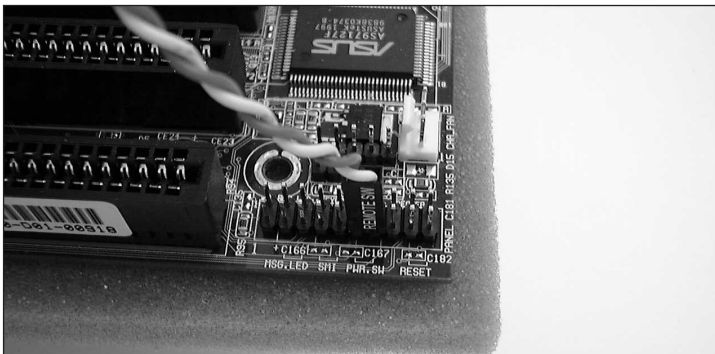
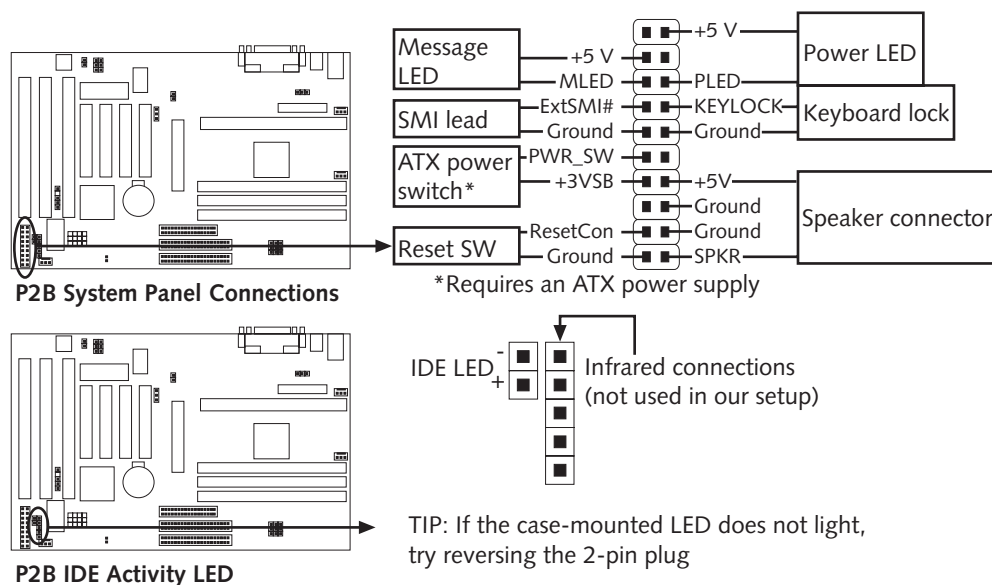

Figure 15-16 Connect the ATX power switch to the system board in preparation for the memory test
Figure 15-23 Panel connections on the system board
- This ATX power supply requires that the ATX power switch be connected to the system board. The switch wire comes from the front of the case and connects to the system board at the panel connections (Item 10 in Figure 15-2). Connect the switch wire to the panel connection, as seen in Figure 15-16. (An AT power supply does not have this switch wire.)
On the front panel of the computer case are several lights and one switch, and the speaker is nearby. The switches are inputs to the system board, while the lights and speaker are outputs from the system board, which are all connected to the system board by wires. The case comes with these wires permanently attached, but the leads on the ends of each wire must be connected to pins on the system board. The next step to complete the installation of the system board is to connect the wire leads from the front panel of the case to the system board. You can see the front panel connectors as Item 10 in the diagram in Figure 15-2. A close-up of these pins with the one power switch wire attached is shown in Figure 15-16, and the purpose of each connection is labeled in Figure 15-23. The wires coming from the front panel of the case are also labeled in Figure 15-24.
For this installation, using the documentation in Figure 15-23, we see that the five wires in Figure 15-24 fit the pins in the right corner of the system board this way:
- Reset switch wire in Figure 15-24 matches “Reset SW” in Figure 15-23
- HDD LED wire in Figure 15-24 matches “IDE LED” in Figure 15-23
- Speaker wire in Figure 15-24 matches “Speaker connector” in Figure 15-23
- Power LED wire in Figure 15-24 matches “Power LED” in Figure 15-23
- Remote switch wire in Figure 15-24 matches “ATX Power Switch” in Figure 15-23